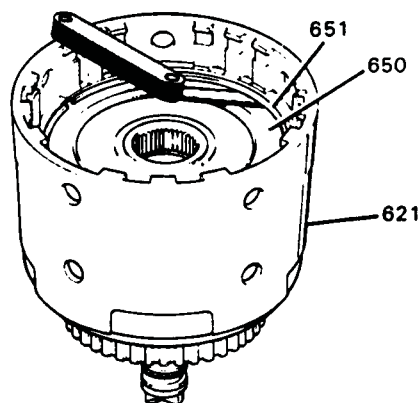

Figure 132
7. Check the forward clutch backing plate travel with a feeler gage as shown in Figure 132.